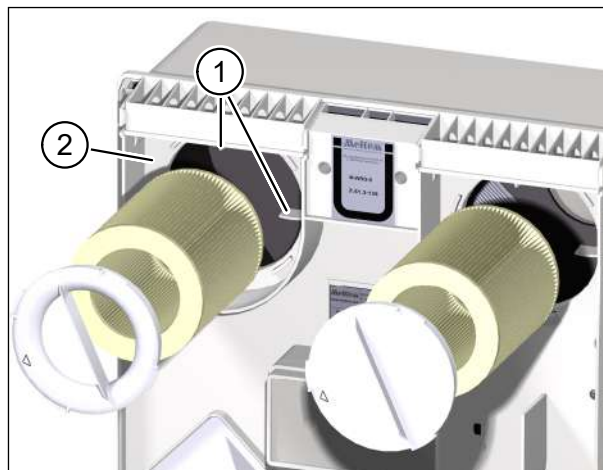

Fig. 19: Insert air filters
- ▶ Make sure that the air filter slides into the four retaining tabs (item 1 in Fig. 19) on the back wall of the ventilation unit.
- ▶ Place the filter ring on the extract air filter. Make sure that the filter ring lies flat on the intermediate plate (item 2 in Fig. 19).